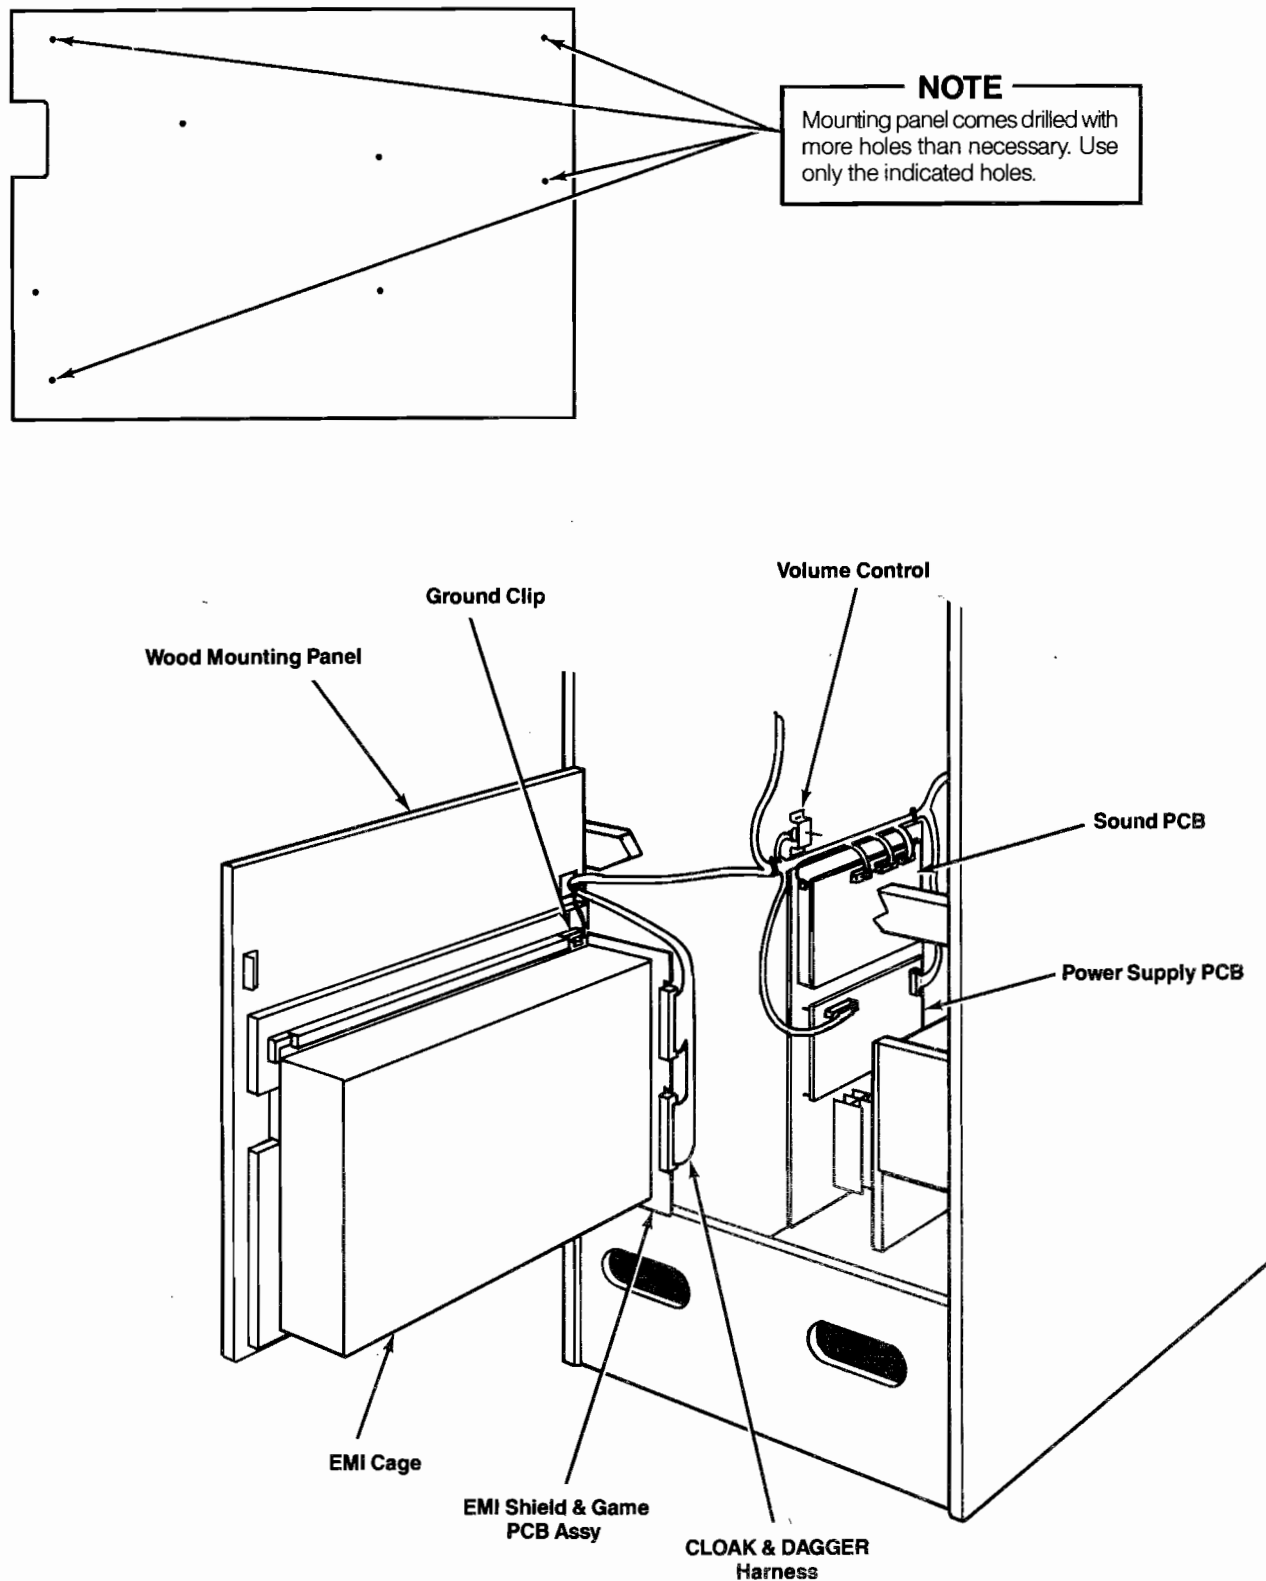

Figure 3 CLOAK & DAGGER Harness and EMI Cage Installation
Mount the wood panel included in the kit to the stand-offs on the hinged rear door with the four #8-32 x 1-inch screws and #8 split-lock and flat washers (see Figure 3).
2. Attach the EMI cage to the wood mounting panel with the #10 x 3/4-inch screw and the two #8 flat fiber washers (see Figure 3).
2. Plug the two keyed-to-fit 44-pin edge connectors into the EMI Shield PCB on the end of the EMI cage. Attach the ground clip to the top of the EMI cage (see Figure 3).
9. Secure the CLOAK and DAGGER harness with the white nylon screw-on clamps removed earlier. Follow a routing similar to that shown in Figure 3.